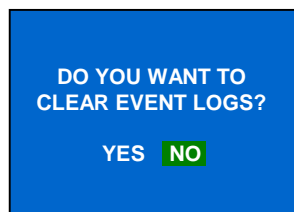

Figure 7-22 CLEAR LOG screen
2. Select Main Menu -> 4 LOG -> 2 CLEAR LOG to enter the CLEAR LOG screen, as shown in Figure 7-22.